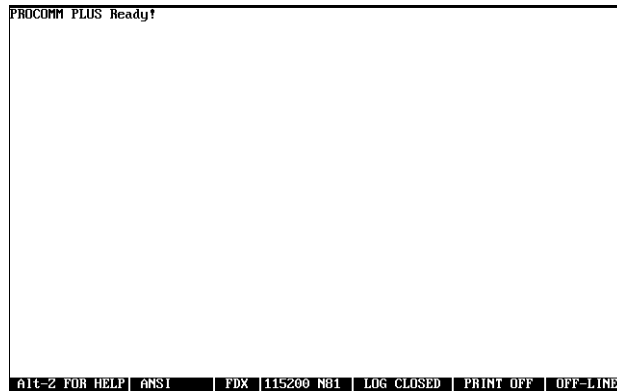

Figure 4-3. Terminal screen
4. From the directory containing the HEX file, execute ProComm by typing **pcplus** and pressing ENTER <cr>. Hit any key to go through the Welcome screen to the Terminal screen shown in Figure 4-3.